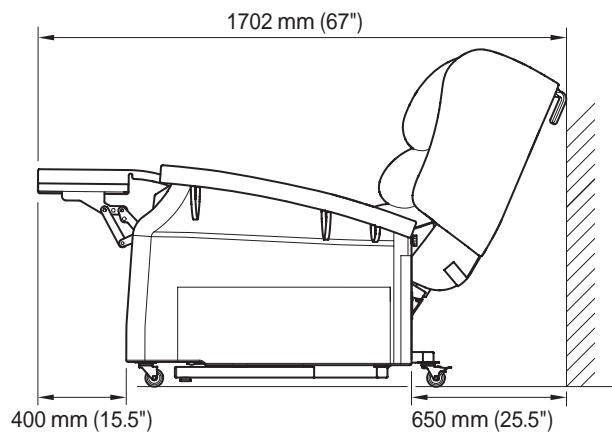

Figure 3 - Chair to wall / furniture measurement
1. Position the chair on a flat surface free from any obstruction. Always allow sufficient space behind and in front of the chair to allow the chair to be fully reclined (See figure 3). Do not allow the chair to touch the wall or other furniture when in use.